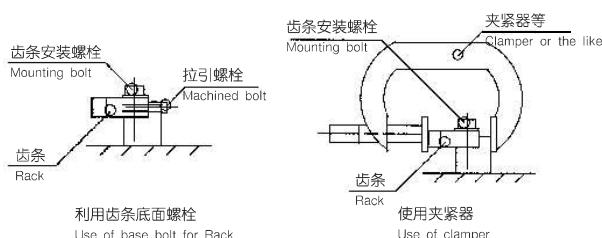

图1 齿条平行的调整方法 /Fig. 1 -Setting procedures for parallelism of Rack-
1. 请将齿条相对于基座基准面，使用夹紧器或者用齿条底面的螺栓孔，把齿条牢牢地坚固地贴紧在基准面上（参照图1，用齿条安装螺钉进行假装配。<建议为扭矩的50%，请参照推荐参考建议扭矩表>）
Set Rack to reference surface of base, and tightly attach Rack to reference surface with use of clamp, base bolt or the like.(Refer to Fig. 1, provisionally tighten mounting bolt for Rack. <approx. 50% of recommended torque refer to list of recommended tightening torque>)